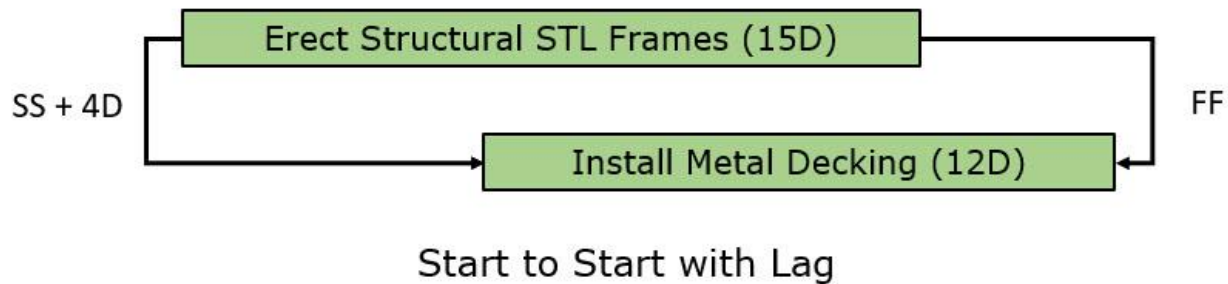

Figure 4
Rather than “pulling” a successor backward with a negative lag, a more workable and easier-to-follow alternative is to join work efforts with a Start-to-Start (SS) relationship. In our structural steel and metal decking scenario, one could schedule a positive offset lag between the two activities, Figure 4.
In Figure 4, the lag delay is the time required to first erect Bay 1, which serves as the building’s structural anchor. During this period, workers must plumb, square and guy this bay to ensure precision, then install permanent cross-bracing to prevent ‘racking’. Because Bay 1 is distinct in both effort and structural significance, it warrants a standalone task.